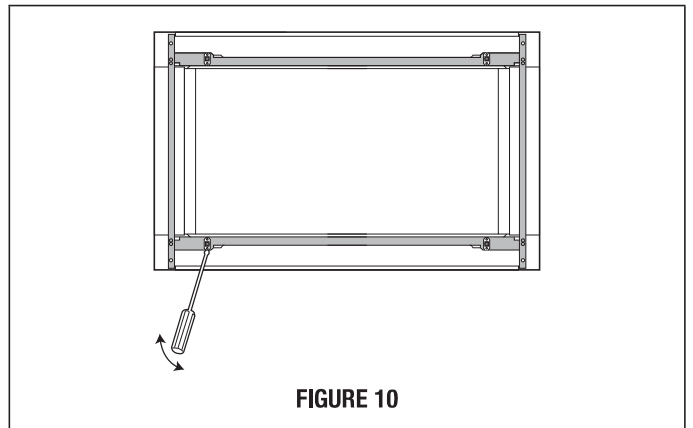

FIGURE 10
E. BACK FRAME INSTALLATION: Position BACK FRAME equal space top to bottom, side to side. Mark for 4 holes, center punch and pre-drill with 1/16" drill bit. Secure frame with 4 SCREWS (G). See Figure 10.
- C. **DISASSEMBLY:** The FRONT FRAME and BACK FRAME come pre-assembled with ball studs engaged in the receivers. Separate the FRONT FRAME from the BACK FRAME. Place the assembly facedown onto a protected surface. At the location of the ball stud, insert a flathead screwdriver between the FRONT FRAME and the BACK FRAME and gently pry up to disengage the ball stud from the receiver. Repeat for each corner. See Figure 10.